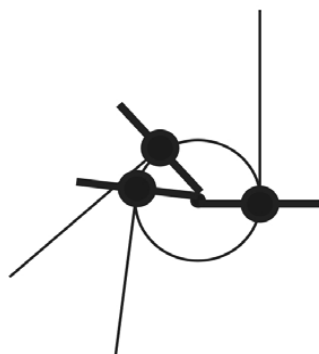

Fig 4.3.6.i
- h) The correct piloting technique is to walk a circle at the centre of the 3 m centre circle with centre of this circle remaining at the extremity of the pilots' left shoulders except when allowing space for an overtaking pilot (Fig 4.3.6.i).
- ii) the lines are perpendicular to the pilot's shoulders. When the pilot is positioned correctly the lines form a tangent to the pilots' walking circle (Fig 4.3.6.i)., and